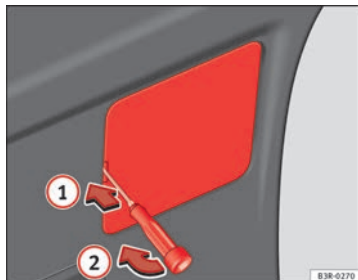

Fig. 234 Remove the cover of the rear lid trim
- Insert the screwdriver into the opening in the cover ⇒ Fig. 234 ① and detach the cover ②.